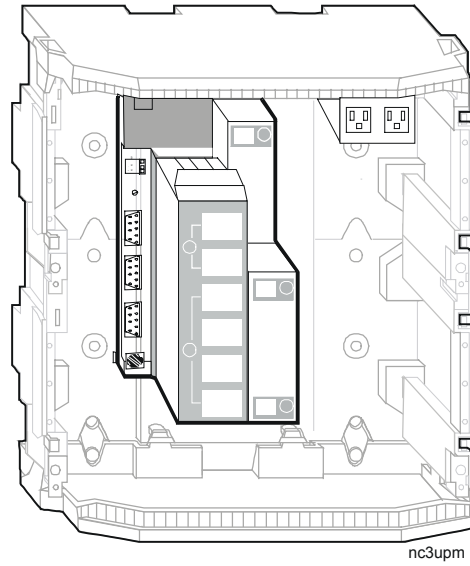
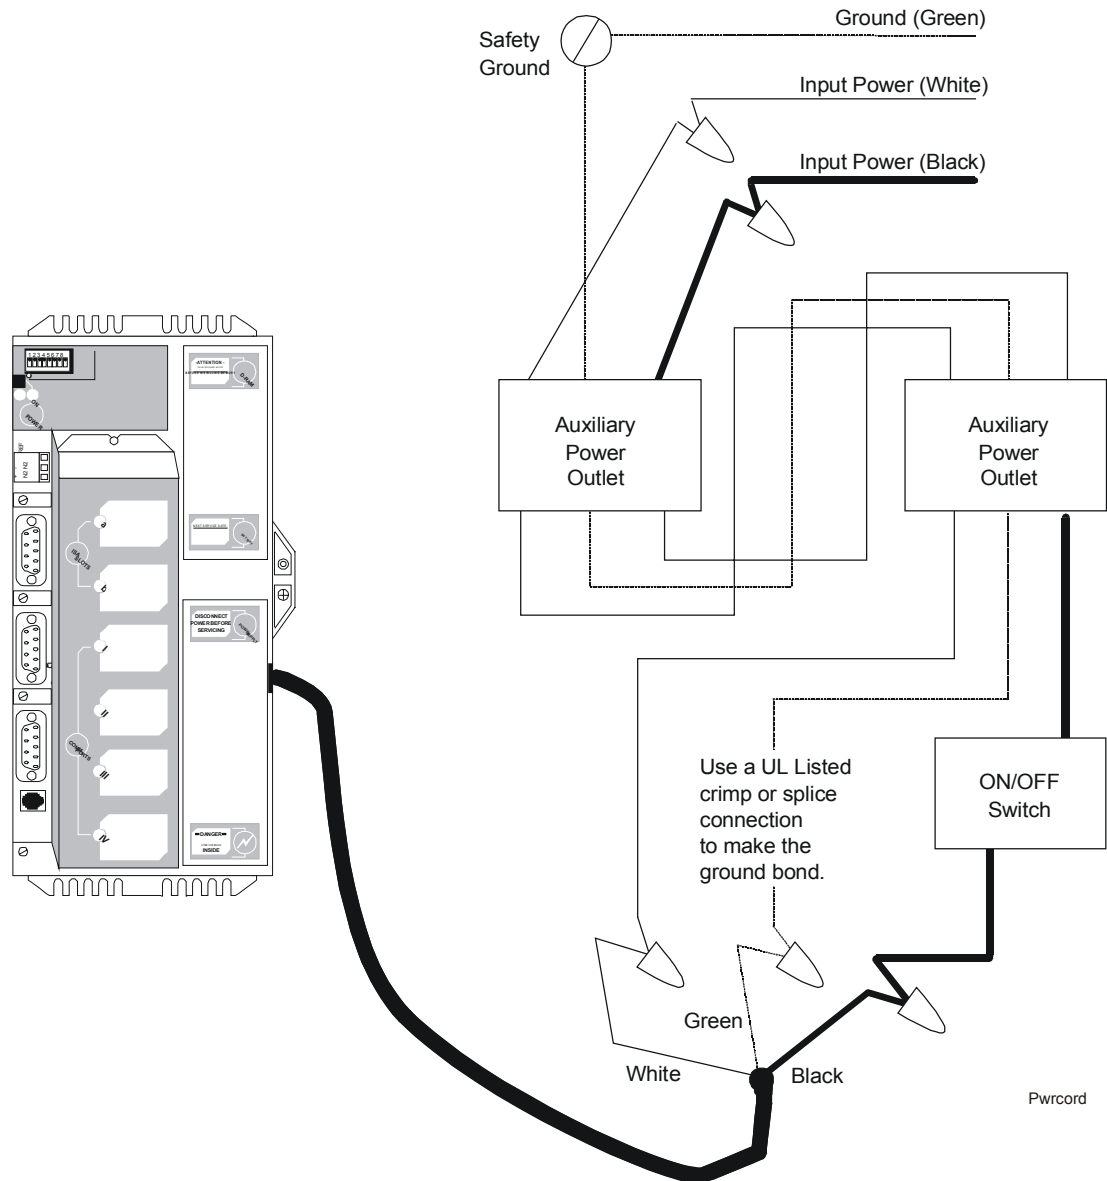

Figure 3: NCM Mounted into an EN-EWC22-0
Figure 4: Wiring the Power Cord
- Figure 4 shows how to wire the NCM power cord into the power entry box in the EWC22. Once this wiring is complete, the switch on the power entry box controls power to the NCM.
Mount the NCM in a suitable enclosure near its line voltage connections. The unit is designed to fit into a variety of enclosures. Figure 2 shows the overall mounting dimensions. Figure 3 shows the NCM mounted in an EWC22. Figure 4 shows how to wire the NCM power cord into the power entry box in the EWC22. For more information on the EWC22, see the *Universal Packaging Module Technical Bulletin (LIT-6363070)*.
Figure 4 shows how to wire the NCM power cord into the power entry box in the EWC22. Once this wiring is complete, the switch on the power entry box controls power to the NCM.